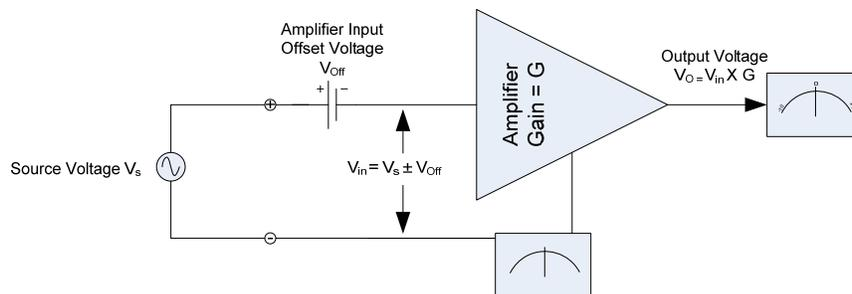
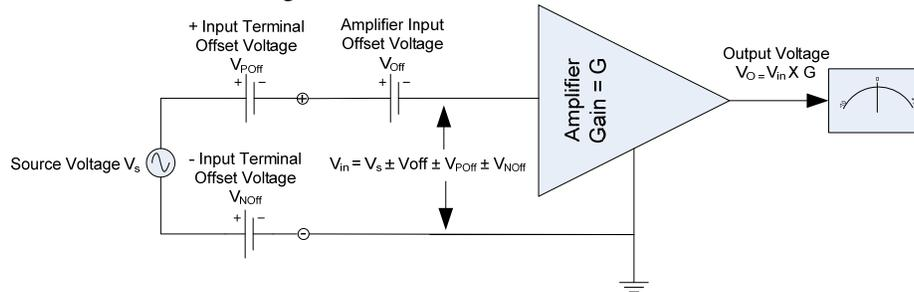
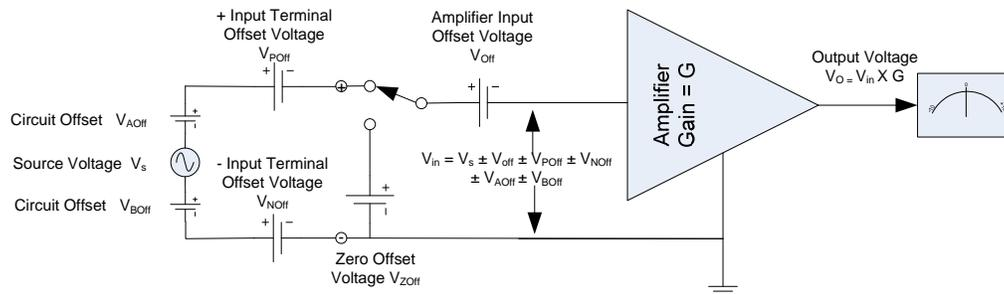
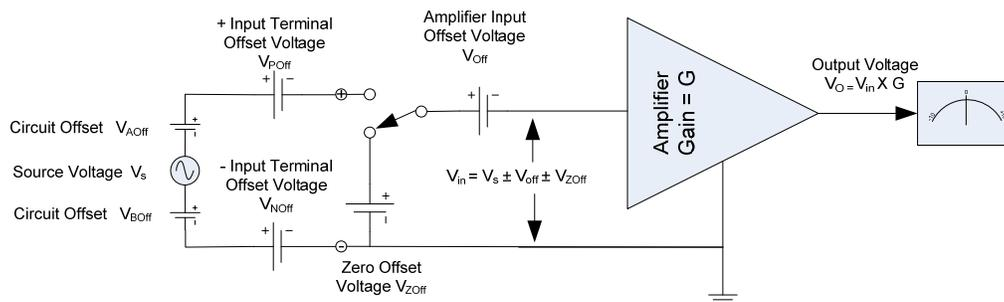

Figure 1
Figure 2
Figure 3a
Figure 3b
One way to think of this situation is shown in Figure 1. Here the input offset voltage is shown as a tiny (μV) battery in series with the input signal. Therefore, the output signal (V_O), is equal to the sum of the signal being measured (V_S) and the input offset voltage (V_{Off}), times the gain of the amplifier (G). Remember, this is actually an offset voltage in the amplifier itself—and not an offset from external factors.
To show the effect of thermally generated voltages at the instrument input terminals on the amplifier output voltage, the diagram of Figure 1 is modified as shown in Figure 2.
Figure 2 shows the amplifier output voltage now reflects A) the input signal (V_s); B) the amplifier input offset voltage (V_{off}); and C) the DIFFERENCE between the positive input terminal offset voltage (V_{POff}) and the negative input terminal offset voltage (V_{NOff}) all times the amplifier gain (G). In this example it is presumed that both the positive and negative instrument terminals and the connections to those terminals are the same (for example, copper wire to a gold terminal). If the two terminals are exactly the same, there is no difference—that is, V_{POff} will exactly offset V_{NOff} ; however this is rarely the case. Again, typically such connections show differences in thermally generated voltages of 200 – 500 nV per degree Celsius.
In null meters and other high-precision voltmeters, there are two additional places that introduce offsets. First are other connections in the external measurement circuits. These are shown in Figure 3a as V_{AOff} and V_{BOff} . Like other offset voltages these contribute to the output voltage and change with temperature. A second circuit (often just a simple switch) that must be considered is one to quickly disconnect the amplifier input from the input terminals and “short” the amplifier input thus generating a “zero” reference. Figures 3a and 3b show the two configurations of an amplifier when a Zero input switch is used.
In Figure 3a, the amplifier output voltage is a function of the same input conditions shown in Figure 2 plus the contribution of any offsets from the external measurement circuits. That is, the output reflects the amplifier gain times the measurement voltage, the input terminal and external measurement circuit offset voltages and the amplifier input offset voltage. However, in Figure 3b, the amplifier output voltage no longer reflects any input offset voltages from the external measurement circuits or input terminals but does reflect the offset voltage generated by the Zero switch (V_{ZOff}).
From Figures 3a and 3b it can be seen that Zero created by a V_S of zero volts and a Zero created by placing the instrument in the ZERO mode may not be the same—especially if the ZERO switch is inside the instrument and thus removed from some of the environmental factors which influence the input terminals and external measurement circuits.